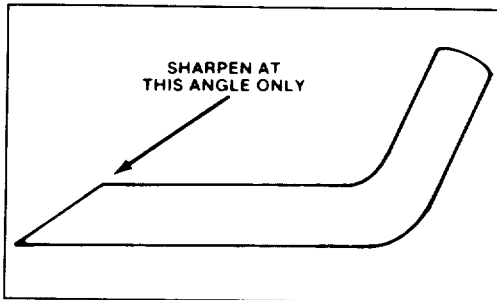

Figure 18
**6. SHARPENING BLADE**—Using a file, sharpen top side of blade (side facing mower housing) and maintain original cutting angle (Fig. 18). The blade will remain balanced if the same amount of material is removed from both cutting edges.